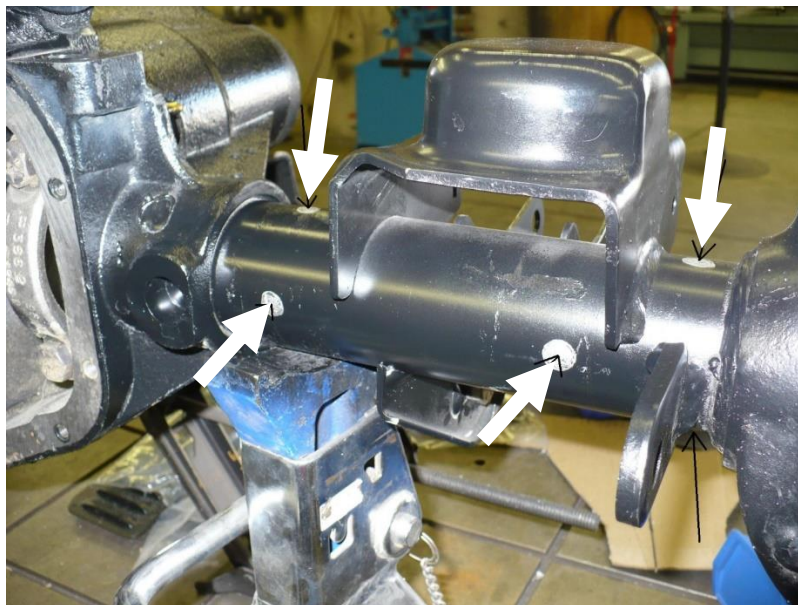

Figure 1. Marking Hole Locations On Short Side
11. On the short side of the axle housing mark 8 hole locations, two on the top, two on the front, two on the back and two on the bottom. See **Figure 1**.